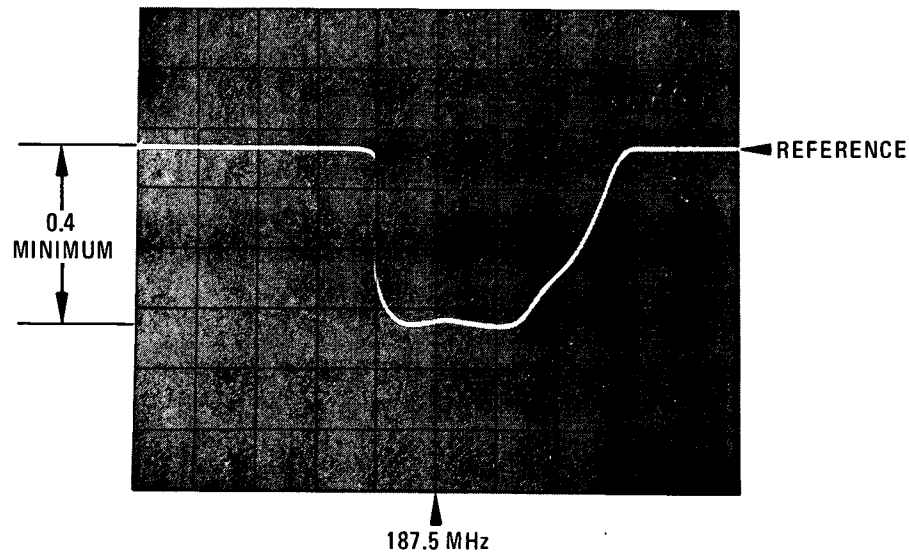

Figure 5-11. Sampler Frequency Response
8. Adjust A3A9A5C1 and C2 (with an insulated adjustment tool) to get an oscilloscope display similar to Figure 5-11. Tune for maximum negative voltage and flatness over the center two divisions. The minimum change from the reference level to the maximum negative voltage should be 0.4 volts. (Troubleshooting Note: If the minimum change is out of tolerance, A3A9A5Q3 and Q8 may have low gain, the YTO feedback signal feeding the RF port of the mixer may be low, or the sampler may be bad.)